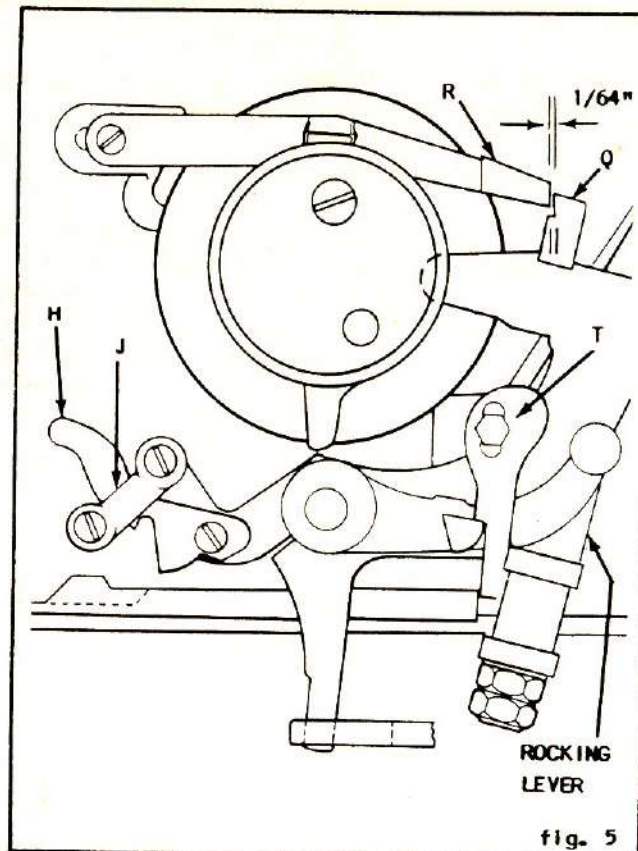

fig. 5
7. Lift lever (H, fig. 5) and allow link (J) to come forward. There should now be a $1/64"$ clearance between dog (Q) and flyover lever (R). To adjust, loosen nut (T) and adjust position of rocking lever to obtain this setting. Retighten nut (T).